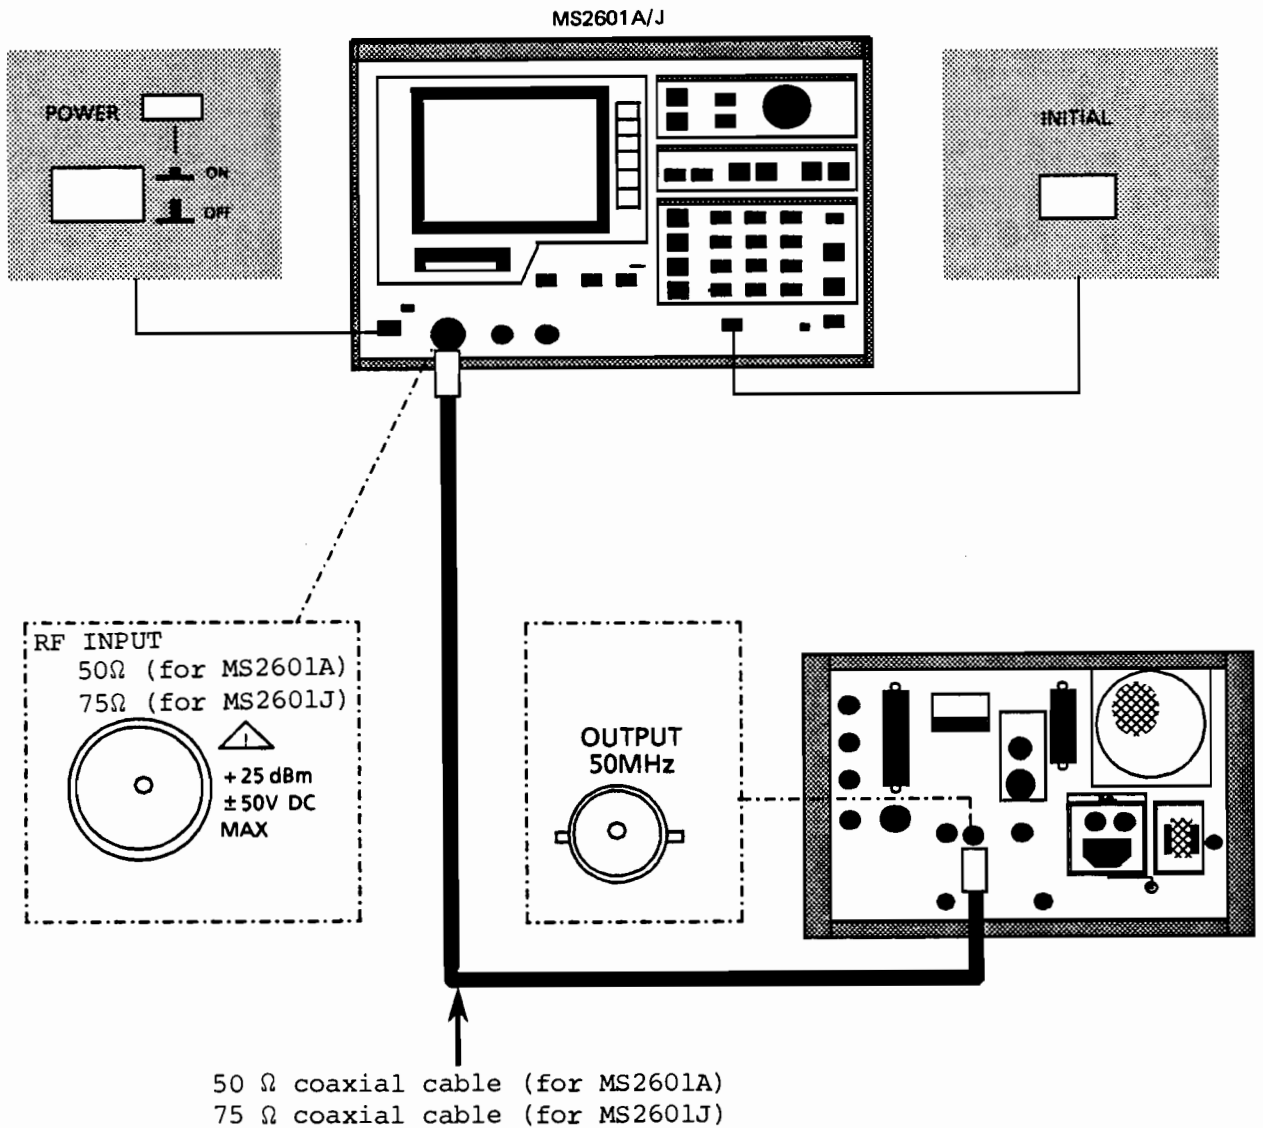

Fig. 6-2 Power-on and Input of Signal to be Measured
Figure 6-2 shows the setup for using the 50 MHz signal output from the OUTPUT connector as the signal to be measured.
The explanation refers to Fig. 6-2 and procedures 1 to 5 above.
When the POWER switch (Fig. 6-2) is set to ON, the MS2601A/J status can be assessed from the CRT display.
- . AUTO is selected for each of sweep time (ST), input attenuator (AT), resolution bandwidth (RB) and video bandwidth (VB).
First, follow the procedure of (1) → (2) → (3) → (4) → (5) explained in the Fig. 6-2 setup and paragraph 6.2.1. The CRT shown below is displayed when the [INITIAL] key is pressed and the 50 MHz signal from the rear panel is input.